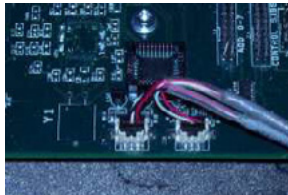

Figure 5 - LED Cluster Harnesses Connected at Main PCB
15. Place the LED cluster harnesses at the main PCB as shown in Figure 5 above.